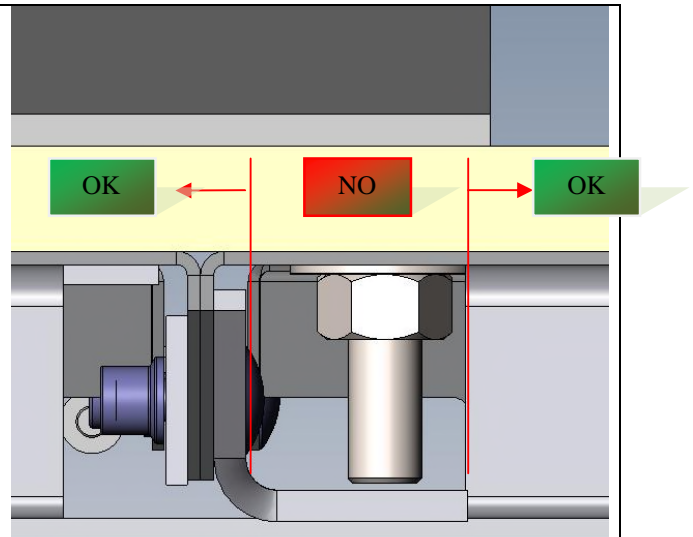
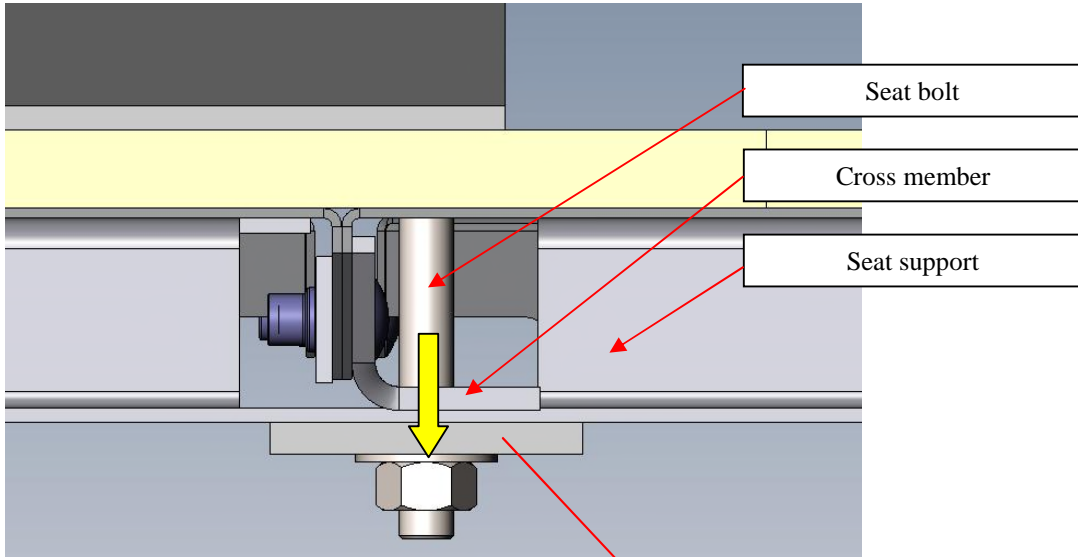

Figure 8: Detail B enlargement view
Figure 9: Drill location in the cross member
- 3- All the seat installation bolts shall be located in the seat support (green part in figure 8). No bolt shall be installed as shown on figure 9.